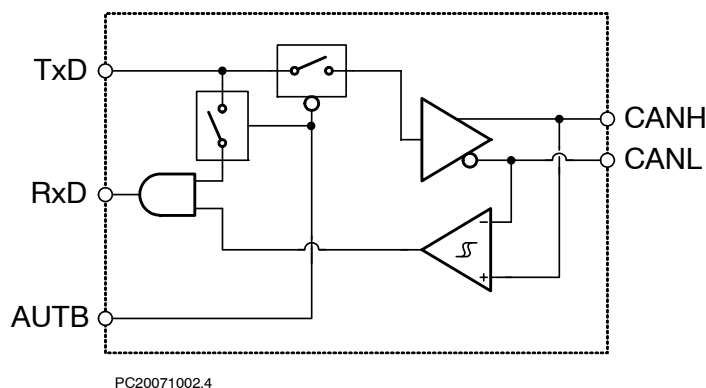

Figure 3. Simplified Schematic Diagram of Autobaud Function
2. Applied transient waveforms in accordance with ISO 7637 part 3, test pulses 1, 2, 3a, and 3b (see Figure 3).